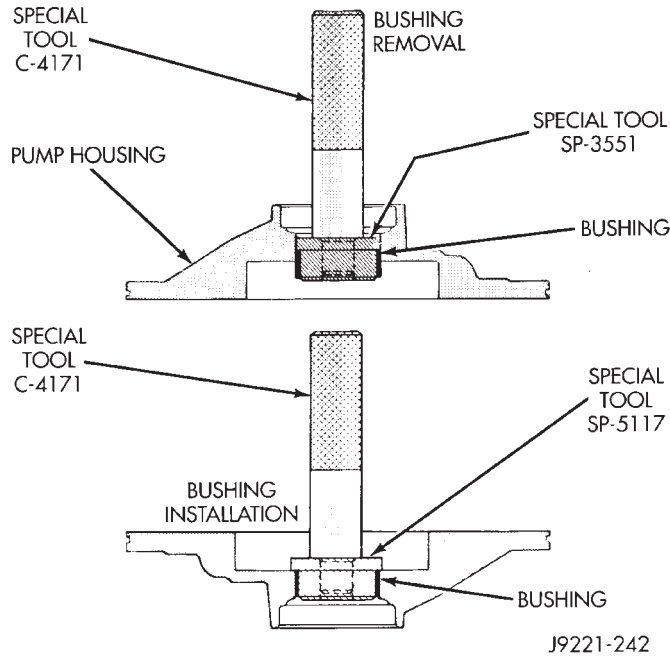

Fig. 123 Removing Oil Pump Bushing
- (1) Remove pump bushing with Tool Handle C-4171 and Bushing Remover SP-3551 from Tool Set C-3887-J (Fig. 123).
- (2) Install new pump bushing with Tool Handle C-4171 and Bushing Installer SP-5117 (Fig. 123). Bushing should be flush with pump housing bore.